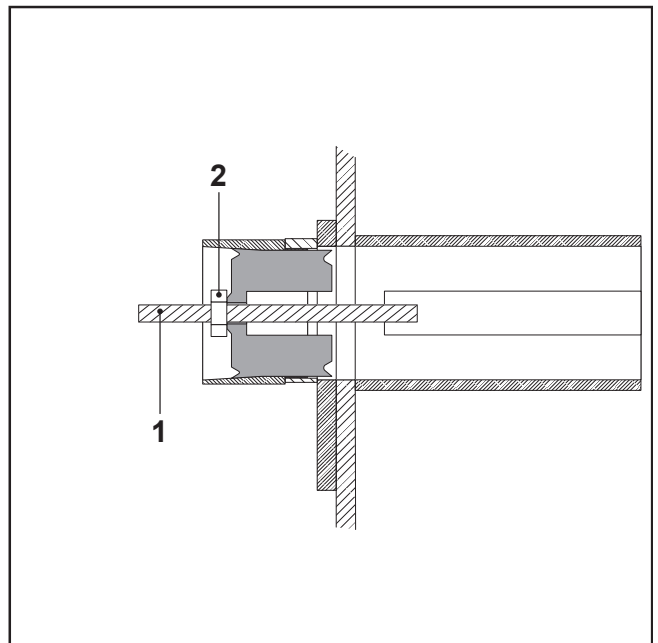

FIG.70
- Push the piston completely into the guide ring, screw on the threaded rod M16 (FIG. 70-REF. 1) and the threaded nut (FIG. 70-REF. 2).